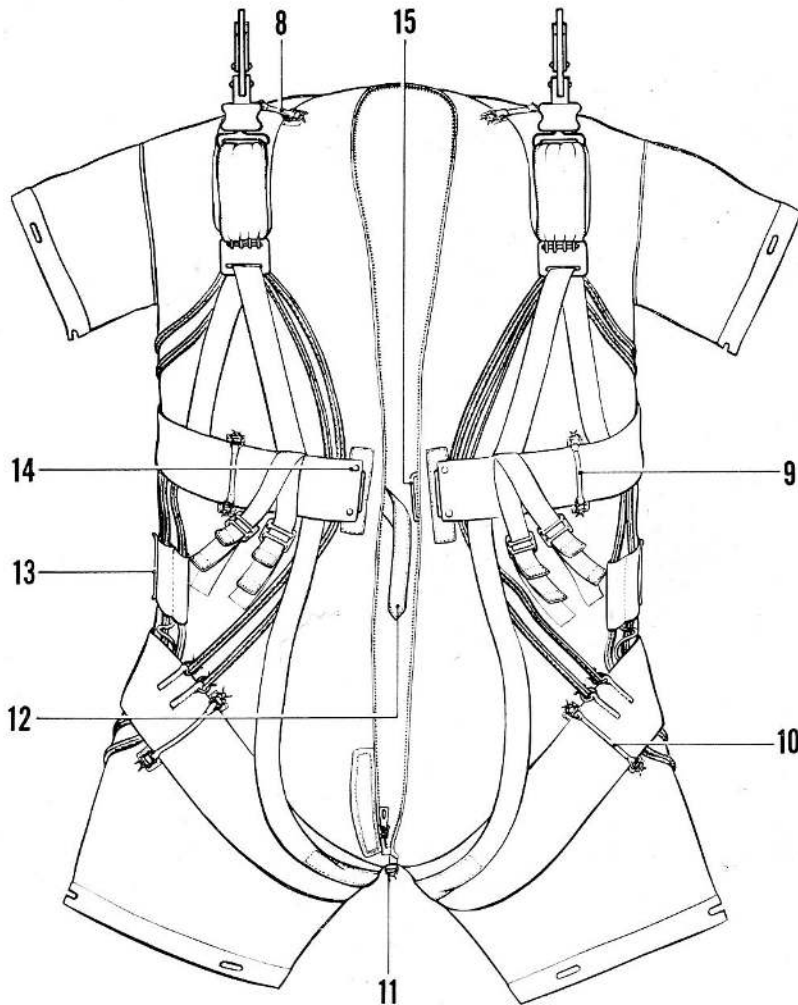

Fig. 6. Lining and harness assembled
side of the front opening at waist level are the male portions of press studs which match female portions on the waist belt of the harness. The front opening is fitted with the matching part of the sliding fastener also referred to in para. 5. The outline of the lining is shown in fig. 6.
- (2) Repeat this on the other side of the harness.
- (3) Ensure that the marks on the two cords lying nearer the centre of the harness on each side coincide with the upper edge of the leg strap (Item 2) and tie the cords, in pairs, to the beackets on the leg straps using thread (Ref. No. 15A/510) tied with double reef knots.
- (4) Place the harness over the lining, passing the legs of the lining through the leg straps and the arms through the cross brace. Feed the end of the strap (Item 12 of fig. 6) and the buckle (Item 15 of fig. 6) through the apertures in the lining so that they are inside the lining.
- (5) Fasten the mating parts of the press studs (Item 14) to secure these in position.
- (6) Tie the matching beackets at Items 8, 9, 10 and 11 together with thread (Ref. No. 15A/510) using double reef knots.
- (7) Turn the lining front downwards and tie the beackets at Items 6, 7 and 13 in a similar manner.